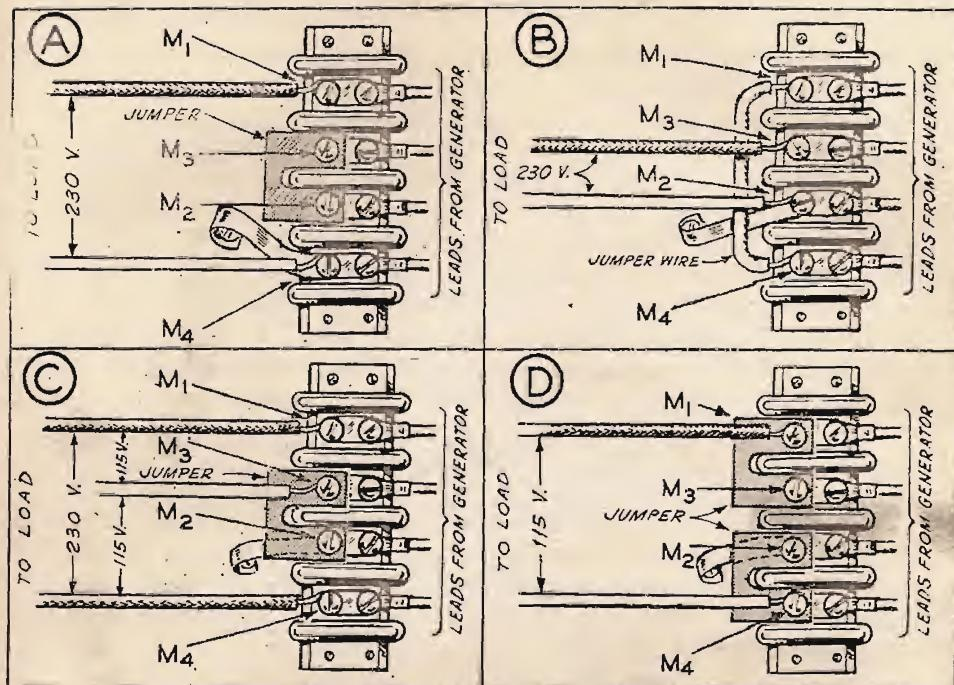

Fig. 8 Single Phase Plant
Load connections are to be made to terminals inside the terminal box on the side of the generator. These load terminals are marked M1, M3, M2, and M4 from top to bottom. When the plant is shipped, two heavy jumper bars are connected across terminals M3 and M2. This jumper connection provides for two 115 volt circuits (with 1/2 the plant capacity available on each separate circuit), or one 230 volt circuit. Refer to C, Fig. 8. For 115 volt service, connect the black (hot) wires to the M1 and M4 terminals, and the white (ground) wire to the M2 or M3 terminal. Remember that ONLY ONE HALF the rated capacity of the plant will be available on either of the two separate 115 volt circuits. The two black wires will give 230 volt ungrounded service.
If the full rated capacity of the plant at 115 volts ON ONE CIRCUIT ONLY, is desired, remove the two jumper bars from across terminals M3 and M2. Reconnect the jumper bars, one across terminals M1 and M3, and the other jumper across terminals M2 and M4. Connect the black (hot) load wire to the M1 terminal, and the white (ground) wire to the M4 terminal. Refer to D, Fig. 8.
If 230 volt current only is to be used, and NEITHER load wire is white (grounded), leave the jumpers connected across terminals M3 and M2. Connect load wires to terminals M1 and M4. Refer to C, Fig. 8.
A. Remove the two jumper bars connecting terminals M3 and M2, temporarily. Disconnect the short grounding wire from the M2 terminal and connect it to the M4 terminal. Reconnect the jumper bars across terminals M3 and M2. Connect the black (hot) load wire to the M1 terminal, and the white (grounded) load wire to the M4 terminal. Refer to A, Fig. 8.
B. Remove (and save for possible future use) the two jumper bars connecting terminals M3 and M2. Using a short length of #10 or larger wire, connect terminals M1 and M4 together. Connect the black (hot) load wire to the M3 terminal, and the white (grounded) load wire to the M2 terminal. Refer to B, Fig. 8.
Be sure the jumper connections are properly made, as explained under VOLTAGE SELECTION, SINGLE PHASE PLANT. Connect the load wires to the proper terminals as shown, according to the jumper connections made, Fig. 8.
Some early plants with SPEC designation ending in the letter "A" were not internally grounded. If inspection shows that there is no ground jumper wire between the M2 terminal and a grounding screw inside the terminal box (Fig. 8), a similar ground connection must be made. Run a short length of No. 10 wire between the battery negative terminal and the M2 terminal, if 115/230 volt service is to be used. If grounded 230 volt service is to be used, connect the ground jumper to the M4 terminal, instead of to the M2 terminal. BE SURE THIS GROUND JUMPER WIRE IS PRESENT IN ALL CASES WHERE USING AUTOMATIC CONTROL EQUIPMENT.